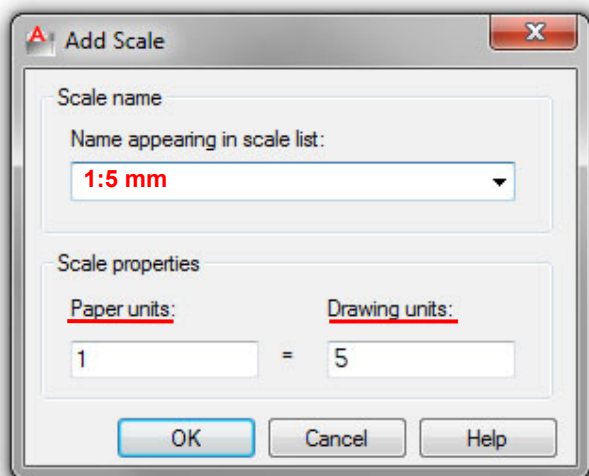

Figure 6
- Fill the *Scale name* and the *Scale Properties* (Figure 6)